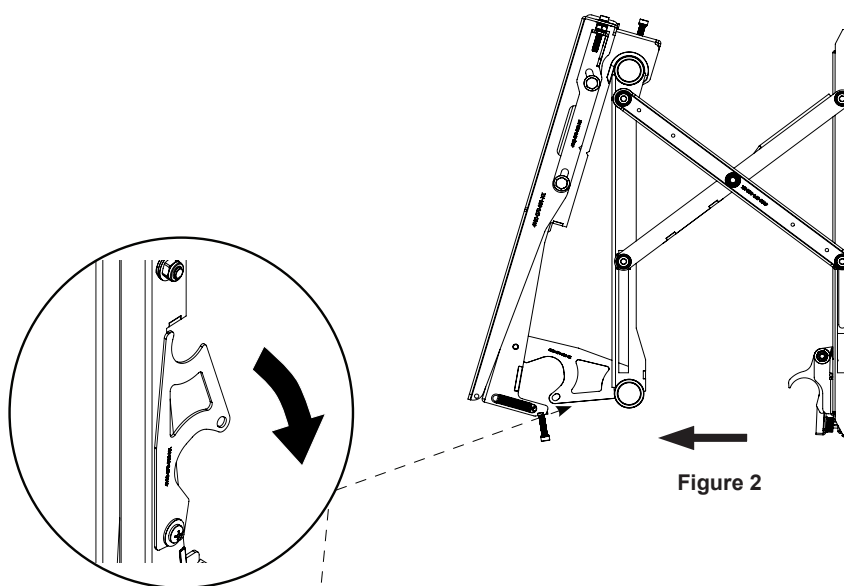

Figure 2
- 2) Slowly pull the front of the PFW 6870 to extend the scissor arms (Figure 2).
- 4) Tilt up the bottom of the flat-panel, then set their kickstands against the bottom tubing of the mount (Figures 2 & 3).